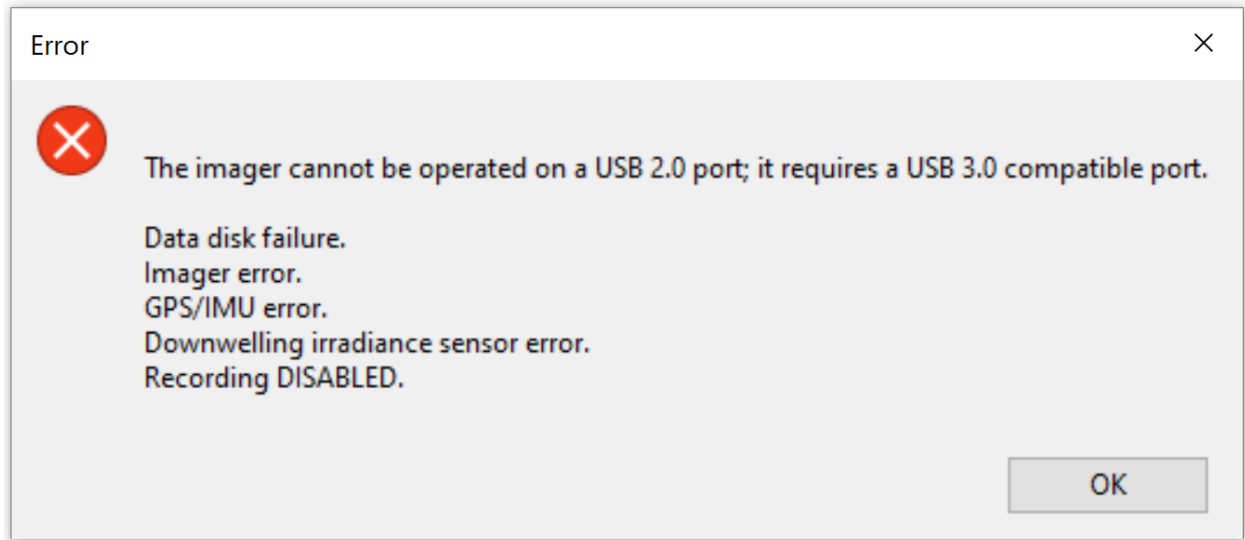

Fig. 2.3: Error displayed by ground station when Pika L or PIKA XC2 imagers are connected to a USB2 port
- An error will display in the ground station if the imager is connected to a USB2 port, as shown in Fig. 2.3.